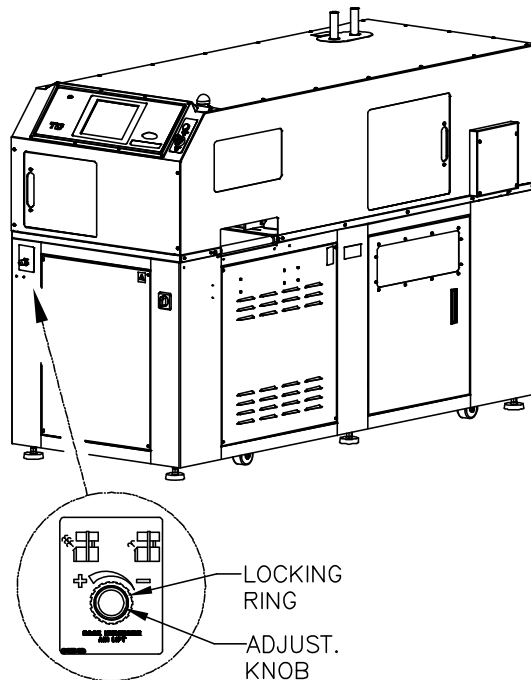

Figure 4-1. Underside Air Blast
1. Locate the book underside air lift adjustment knob as shown in Figure 4-1 below.